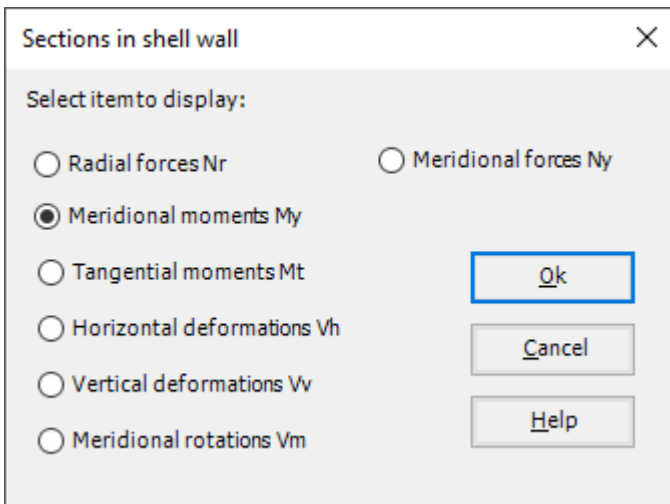

Figure 3.23 "Sections in shell wall" option box
- Choose "Sections in shell wall" command from "Section" menu. The following option box in Figure 3.23 appears